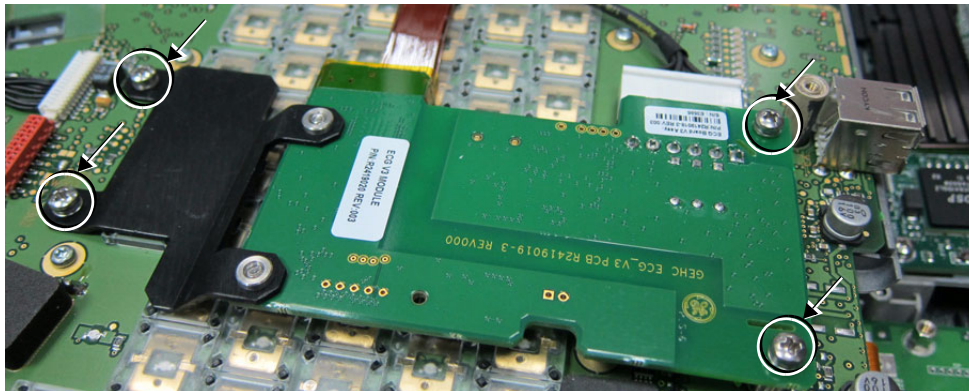

Figure 8-20 ECG Module Assembly Removal
- 2) Loosen and remove the four screws (two long and two short) on either side of the bracket that fasten the ECG Module assembly to the base of the Control Panel, as shown in Figure 8-20.
- 5) Return and fasten the four screws (two long and two short) on either side of the bracket to secure the ECG/Respiratory Module assembly to the base of the Control Panel (refer to Figure 8-20 on page 8-16). When performing this step, each long screw is inserted through one of the two standoffs.